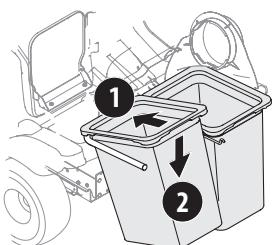

Figure 16
8. Install both grass bag assemblies (664-05104) onto the hanger assembly rails by inserting the front edge in first (1), and then setting the back edge down until it fits into the assembly (2), as shown in Figure 16.